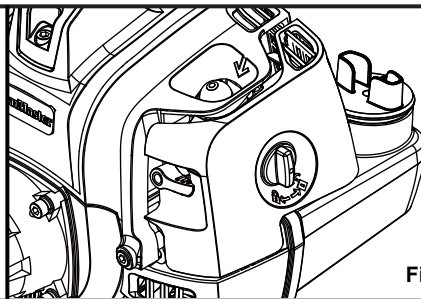

Fig. 32
- Replace the air filter cover ensuring the air filter is completely covered (Fig. 32).